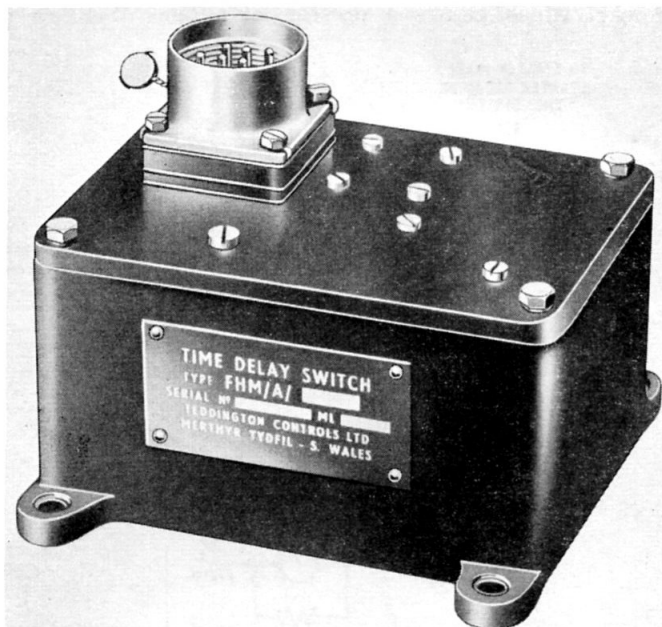

Fig. 1. Time switch, Type FHM/A/1
3. The switch (*fig. 1*) is encased within a cast aluminium housing, the cover plate of which provides a base for the mechanism. The cover is secured by four 4 B.A. hex/hd. bolts, and has bolted to one corner of it a 9-pole Breeze plug. A rubber gasket between